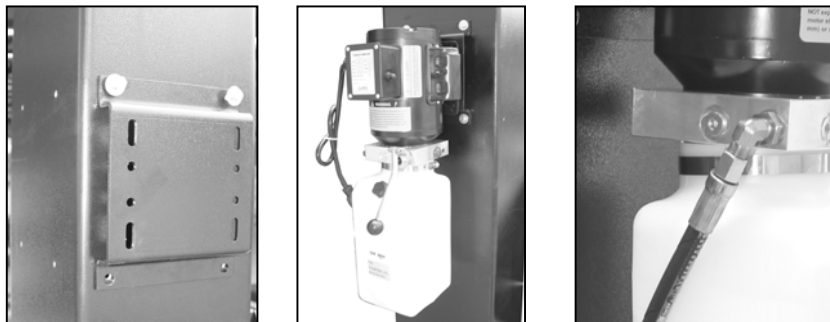

Abbildung: 6-A, B, C Pump & hose
- 7) Fit the motorised pump to the rear of the column. Fasten it with screws and nuts. Connect the hose of the cylinder to the motor pump. (Fig. 6-A, B, C) The hose has different connectors at both ends. Make sure that the end of the hose fits the cylinder. There is an O-ring at the end of the cylinder hose. Ensure that the fastenings are firmly tightened.